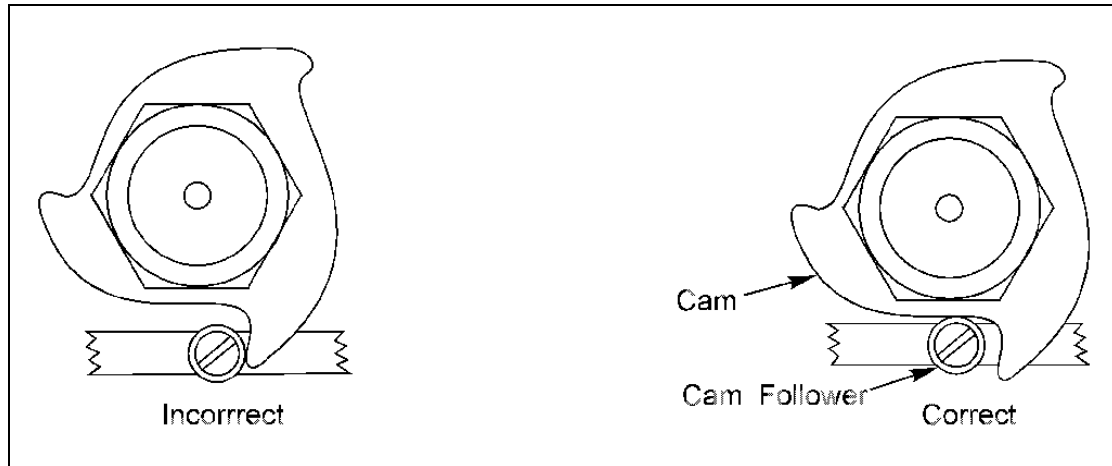

Figure 3 – Cam Position
10. Position the cam as shown in the right side of Figure 3.
Wrong portion of cam being used.	See Figure 3.